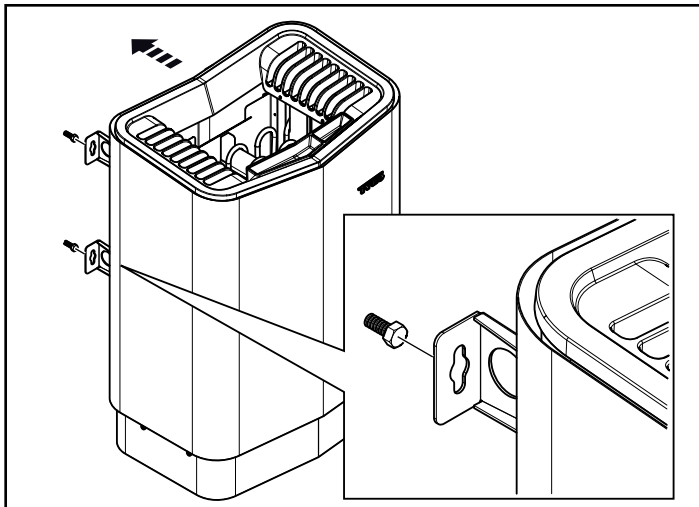

Figure 14: Hang the heater up.
9. Hang the heater on the screws see Fig. 14.